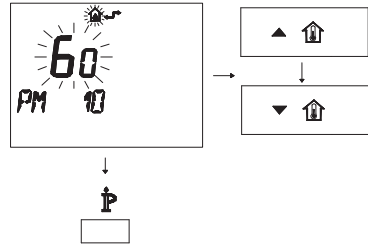

Fig. 7.38
- To modify the programmed SET, act on buttons ▲↑ or ▼↓ and wait for the number programmed to flash (Fig. 7.38).